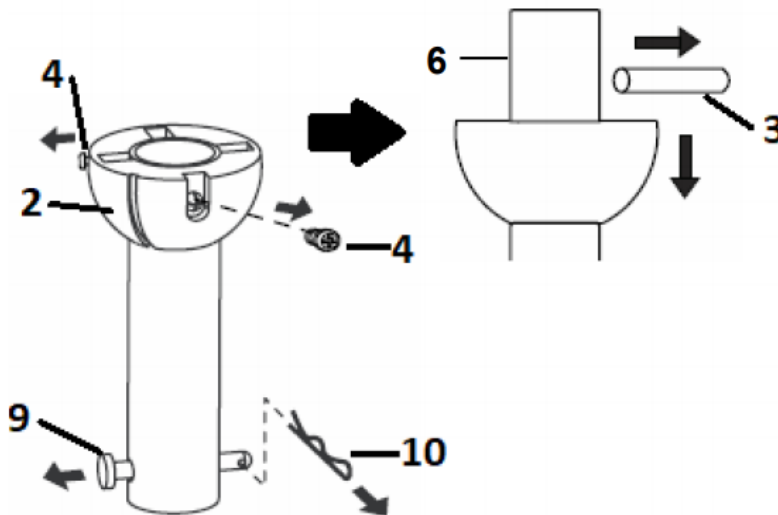

Fig. 7.1
1. Remove the ball joint (2) and dowel pin (3) by loosening the set screws (4) from the down rod (6). Remove the hitch pin (9) by removing the lock clip (10) (Fig. 7.1). **NOTE: Do not discard keep these parts, they are required to reassemble later.**